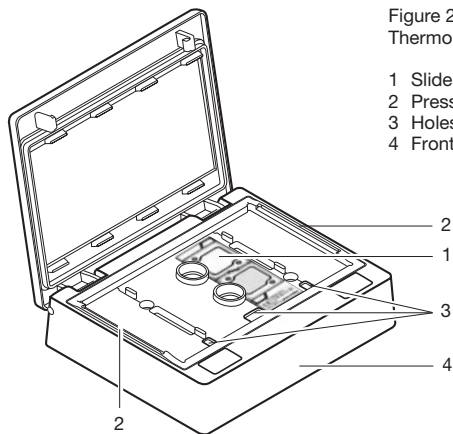

Figure 2: Drawing of the opened Thermoblock for slides DC
4. Place the slides (up to 4) in the Thermoblock for slides DC. The slides have to be inserted with the sticker facing the front part of the thermoblock (Figure 2).